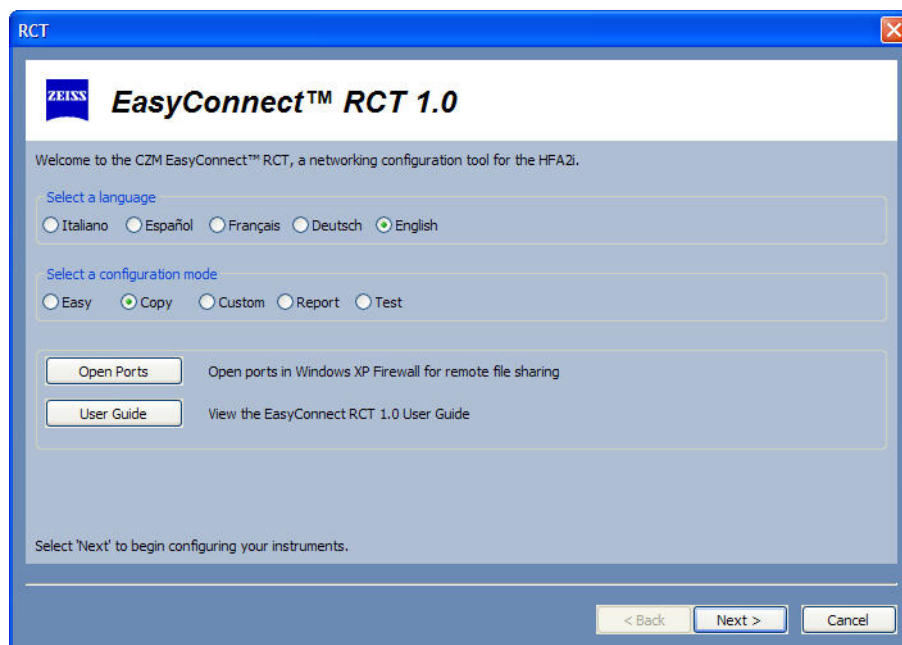

Figure G.14 Select Copy Configuration Mode
- 1 Select COPY from the SELECT A CONFIGURATION MODE radio buttons (Figure G.14) and then select NEXT to continue.